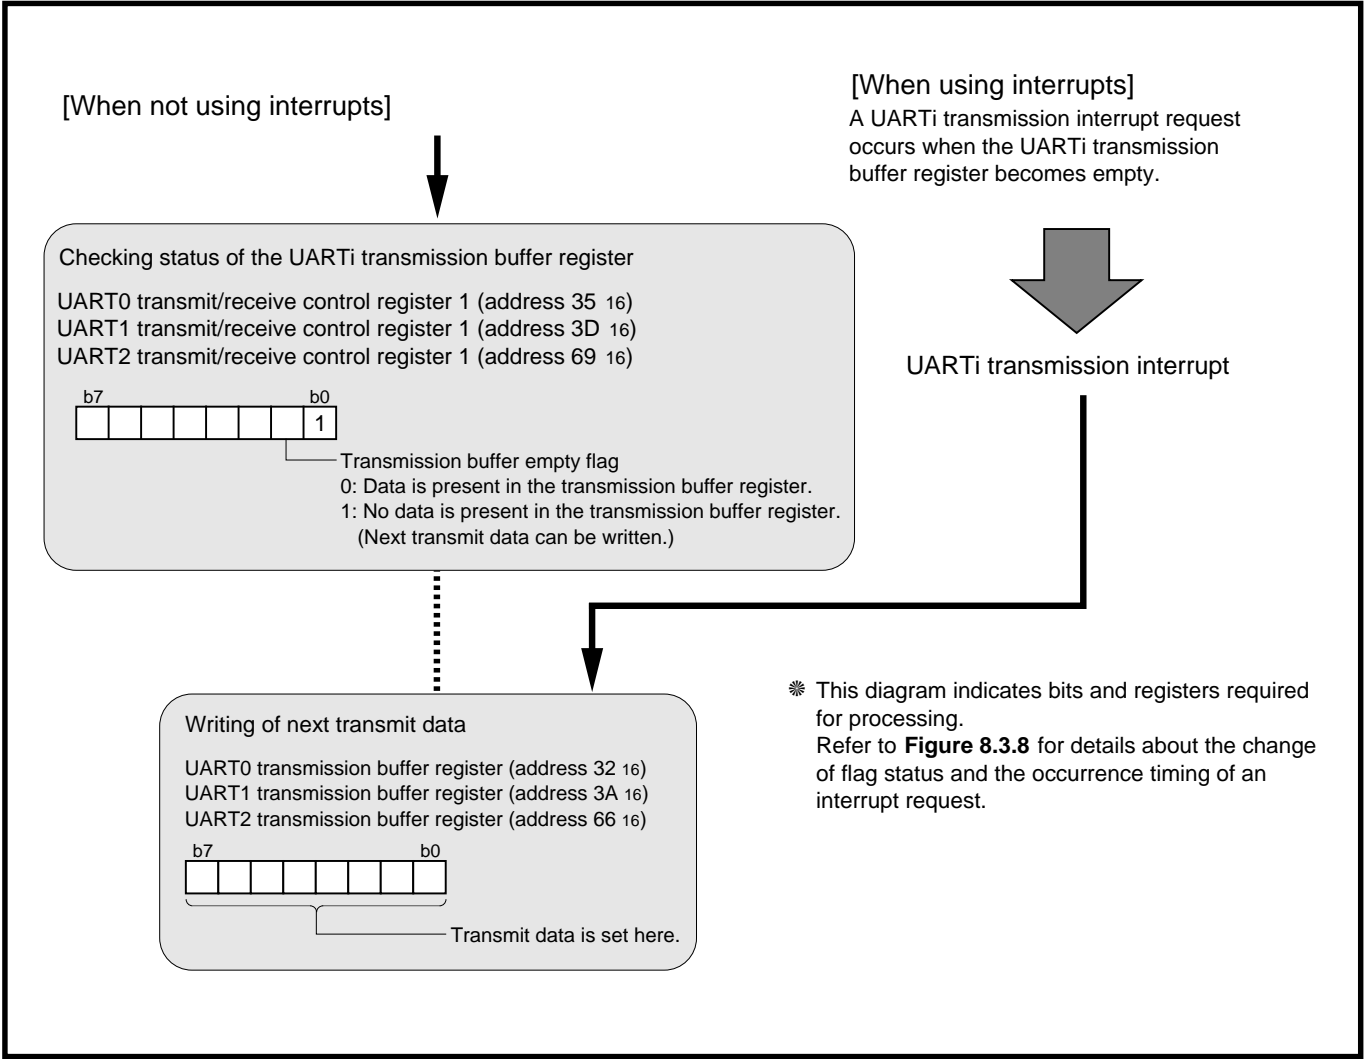
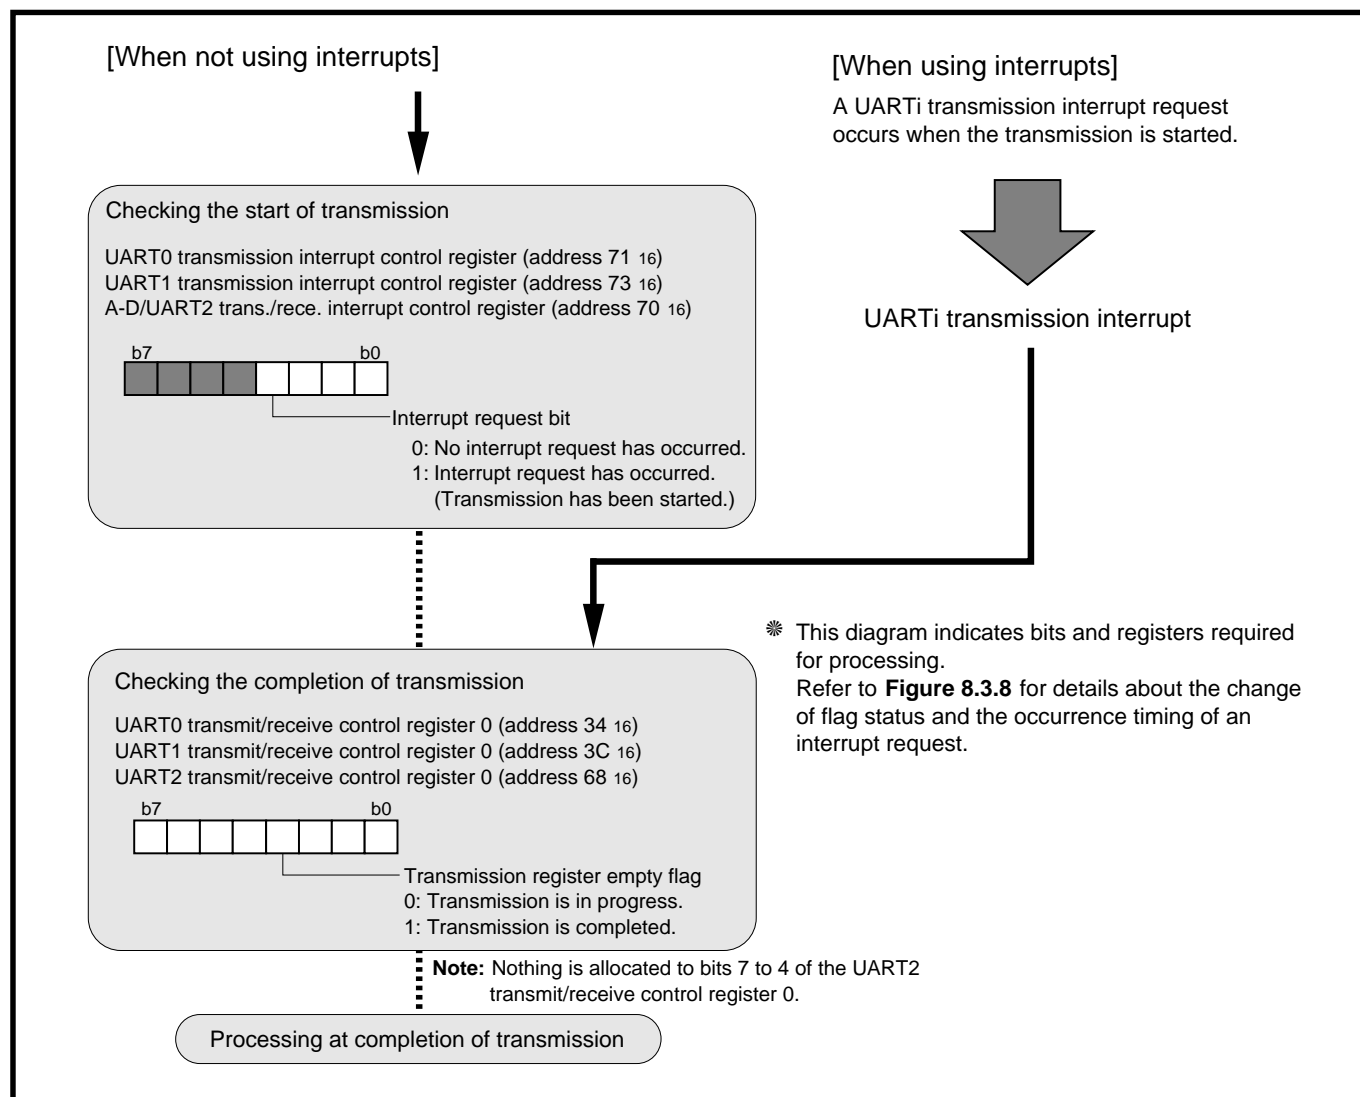

Fig. 8.3.5 How to write data after transmission is started
Fig. 8.3.6 How to detect of transmit completion
- ① Check whether the previous transfer is completed or not. (Refer to **Figure 8.3.6.**)
- ② If the previous transfer has been completed, change the contents of the transmit clock output pin selection bit.
- ③ Set the transmit data.
Figure 8.3.5 shows how to write data after transmission is started and Figure 8.3.6 shows how to detect the transmit completion.